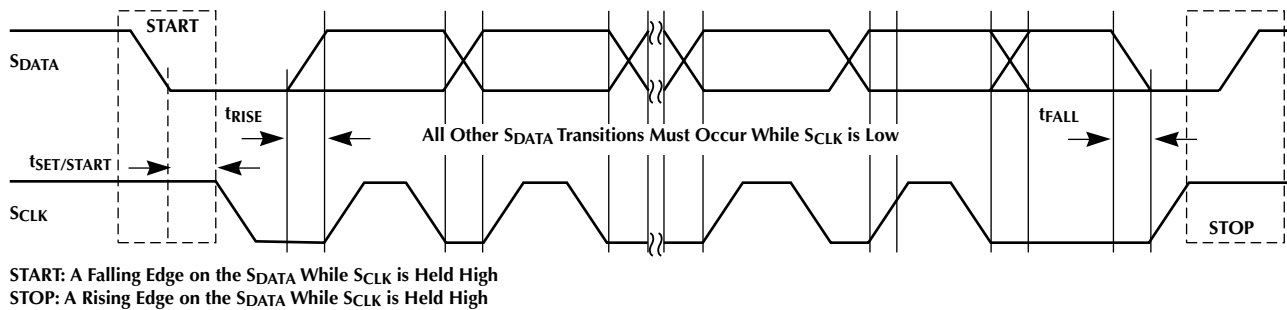

Figure 5. Definition of START & STOP on Serial Data Bus
**Device Addressing:** Figure 5 shows the physical waveforms generated in order to address the ML6430/ML6431. There are six basic parts of the waveform: